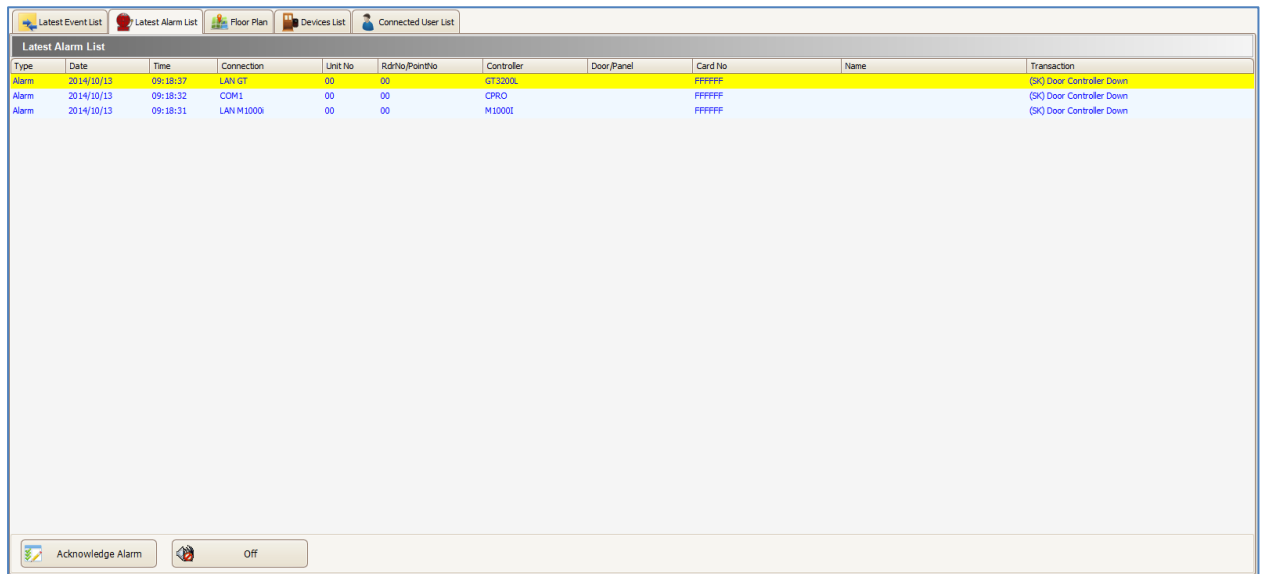

Figure 280 - Latest Alarm List
- Latest Alarm List will display the all the alarm events that used to alert the user (Refer **Figure 280**). An image will be blinking to indicate warning of existing alarm event that had not been acknowledged.